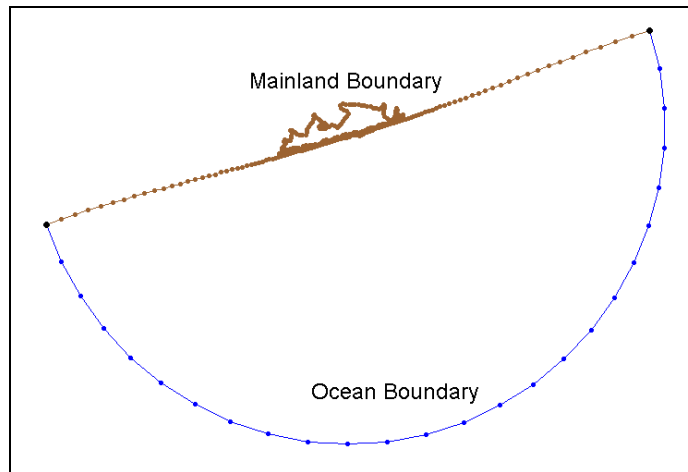

Figure 1 Feature Arcs after boundary types have been assigned.
2. Double click the arc representing the ocean boundary, shown in Figure 1. In the *ADCIRC Arc / Nodestring Attributes* dialog, assign this arc to be of type *Ocean*.